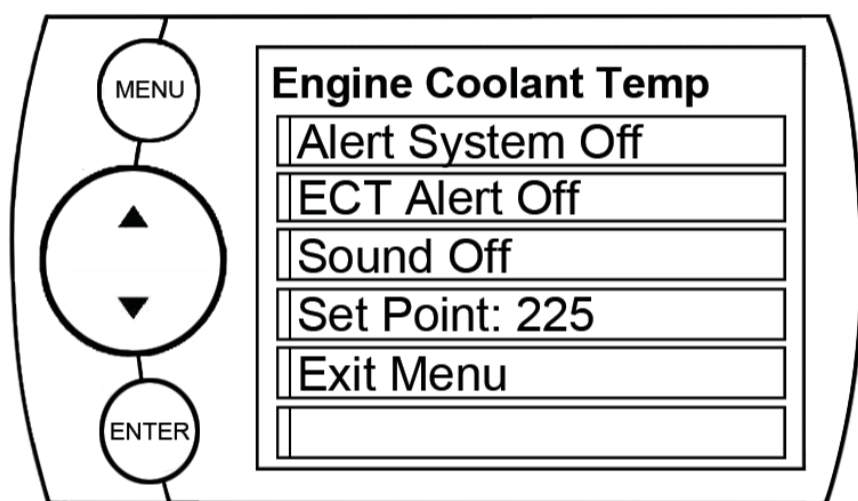

Figure 18
The Alert Options (Settings) screen (Figure 18) allows you to turn the alerts on/off both collectively and individually, and also lets you set the alert values for each of the available parameters.
1. Select a PID in the Alert Options menu and Figure 18 will appear:
**NOTE:** In Figure 18 the *Engine Coolant Temperature PID is being modified.*